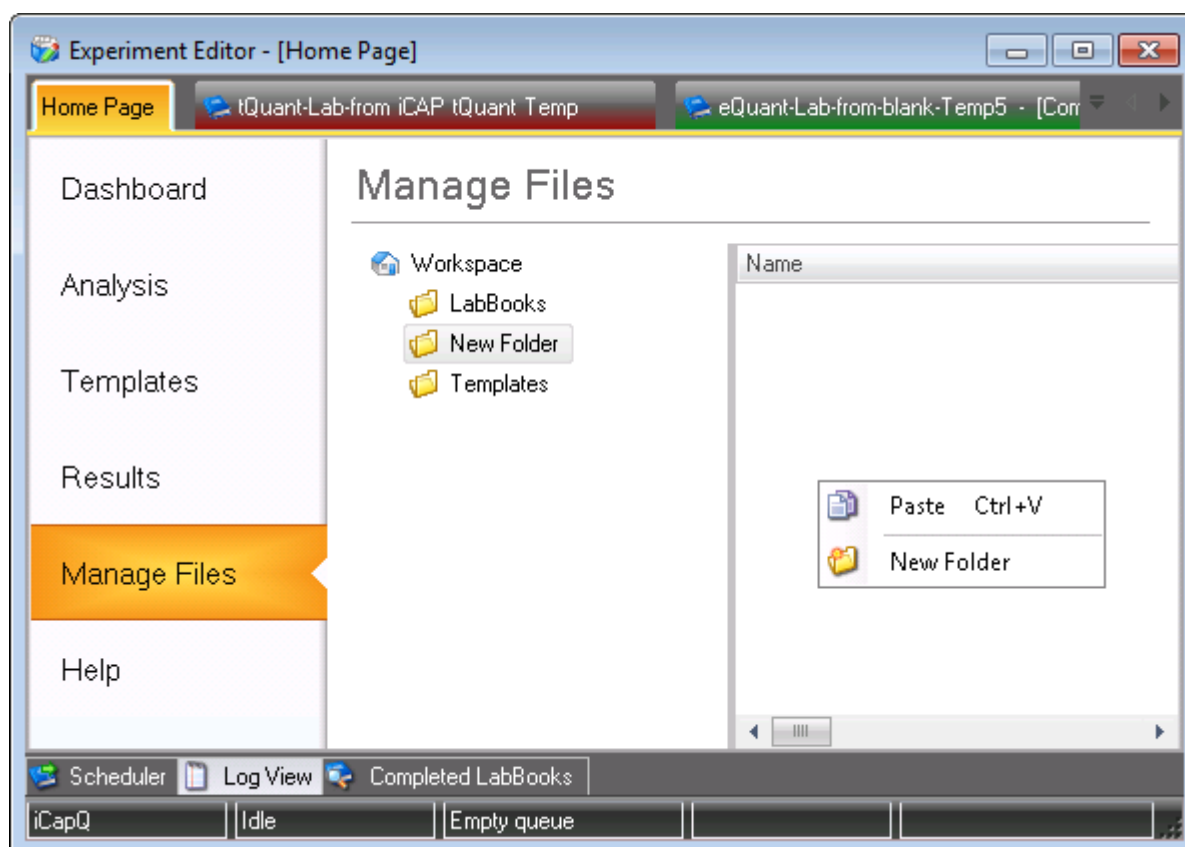

Figure 5-37. Context menu Paste
6. Right-click in the new location for the file, see Figure 5-37.